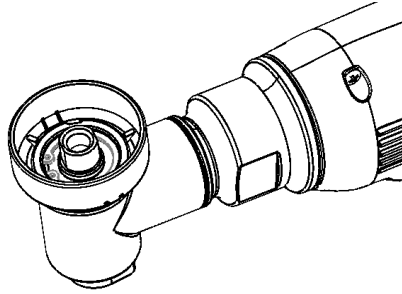
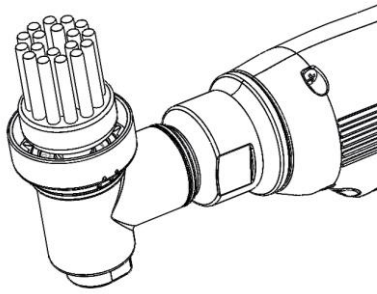

Fig.9
Fig.10
⚠ WARNING: Do not force the screw it could break. The maximum allowed screw force is 2Nm. For the screw use only a clockwise direction when the tool is position as show in a Fig. 9 and Fig. 10 (for unscrew use counterclockwise direction)
- 4) Mount the brush (rotary version) (Fig. 9) by screwing it in a green shaft. Follow the steps:
2. Hold the shaft-locking button (6) and screw the brush on the green shaft (Fig. 10)
3. To remove, hold the shaft locking button (6) and unscrew the brush